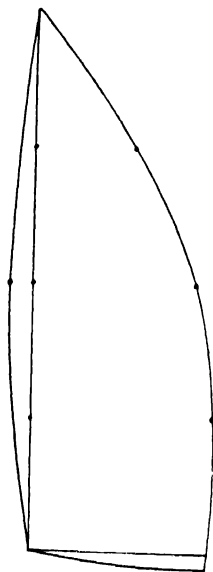

FIG. 27 Floor plan of the spinnaker, representing one half only of the sail.
The floor plan, as drawn in chalk on the sail loft floor, shows only half the sail, the luff or leech being on the left (standing at the foot of the sail), and on the right the centre seam, which runs from the peak to the middle of the foot (Fig. 27). If the centre seam meets the luff at an acute angle, it will be seen immediately that the head of the sail will
*Operation 1* Drawing the floor plan (Fig. 27). A plan of half the spinnaker, full size before stretching, is first drawn on the floor in chalk, the luff, represented by a straight line, being on your left as you stand at the foot, and the foot, again represented by a straight line, lying at